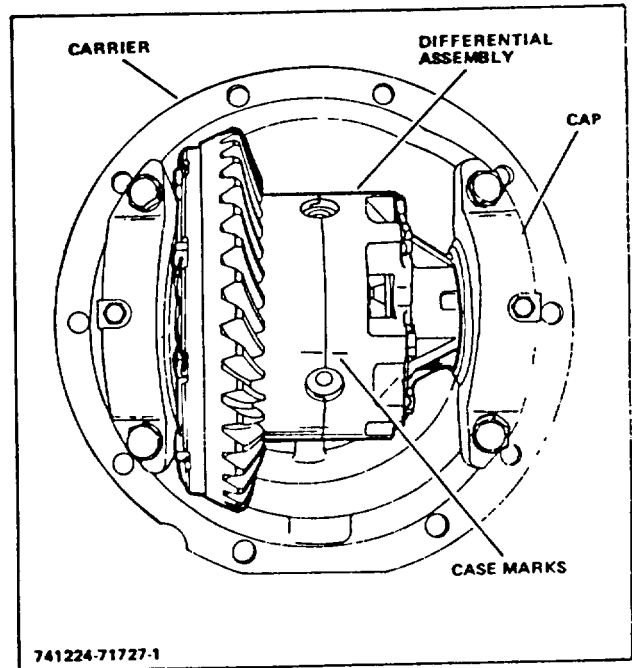

Figure 3-1. Differential Carrier Assembly - Front View
4. Remove the twelve (12) planetary carrier mounting bolts and carefully pull the planetary carrier straight out of the wheel hub to remove.
**NOTE: When carrier is difficult to remove, insert two (2) of mounting bolts just removed, into the threaded bolt holes on carrier housing perimeter and turn bolts inward to assist in prying carrier housing off.**
12. Mark differential case halves (Fig 3-1), bearing caps, and differential housing. Then remove bolts, washers, and adjusting nut locks; remove place bolts and bearing caps from differential carrier.
- b. Remove capscrews holding case halves together. Note aligning marks on case halves (Fig 3-1).